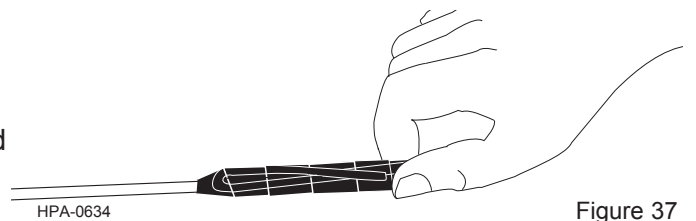

Figure 37
**Step 4:** Pull the cable to the ONT while holding the electrical tape (Figure 37) - do not exceed recommended tension and bend radius (see the cable's specification sheet).